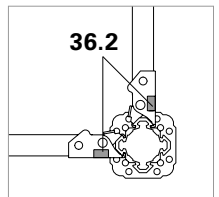

Fig. A9.03a
3. Push the Table Connector STV up to the MULTIPROP Props and make a secure connection by tightening the ring bolts. (Fig. A9.03a)